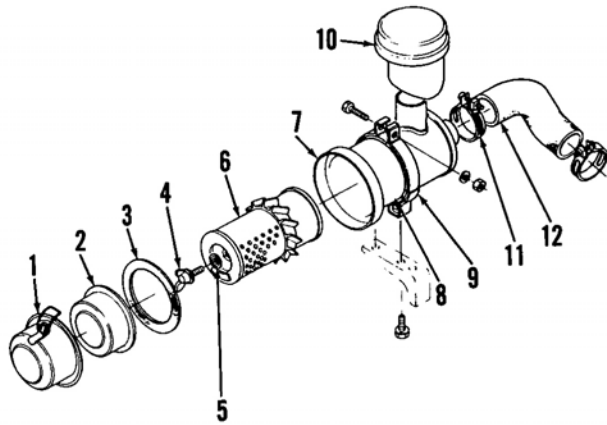

Fig. 33—Exploded view of a typical air filter assembly.
46. **INSPECTION.** All models are equipped with a dry type renewable air filter element as shown in Fig. 33. Manufacturer recommends blowing out filter after every 100 hours of operation and renewing filter every year or after six cleanings.